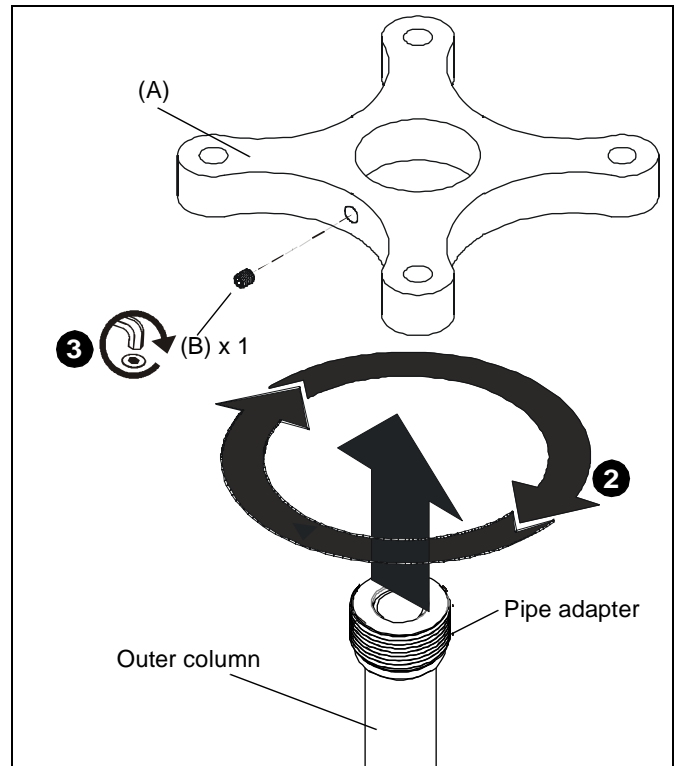

Figure 2
- Remove outer column with pipe adapter from ceiling mount assembly (H).
- Install outer column with pipe adapter into ceiling plate of threaded collar until tight, with a minimum of four threads engaged. (See Figure 2)
- Install 5/16-18 x 1/4" set screw (B) into hole on ceiling plate (A) to secure outer column. (See Figure 2)